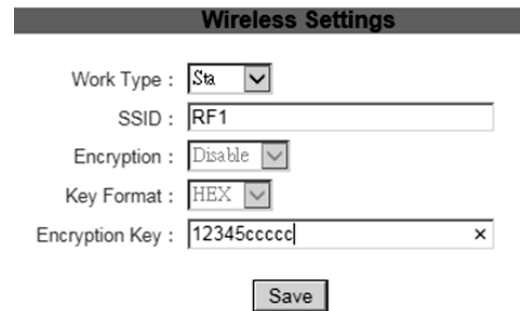

Figure 24
3. In "Wireless Settings" column, the "Work Type" is working mode which select the Sta mode; "SSID" is WiFi device name, revise current connected wireless network (like RF1); "Encryption Key" is WiFi password, enter the current connected wireless network password (like 12345ccccc); the rest remain default, click "Save" button to save the setting(Figure 24).